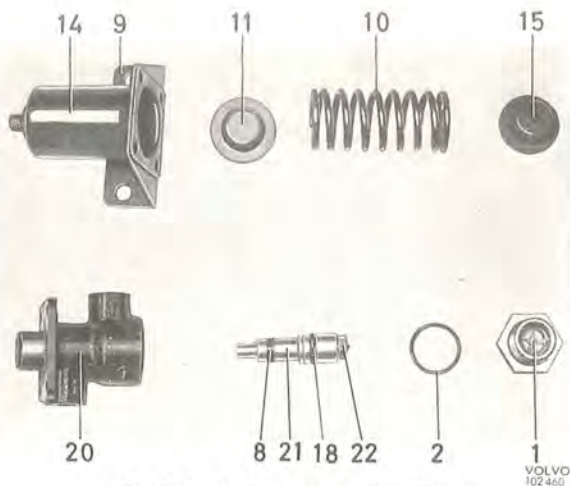

Fig. 5-59. The brake valve dismantled
- Screw out the plug (1) and press out the plunger complete, see Fig. 5-59.